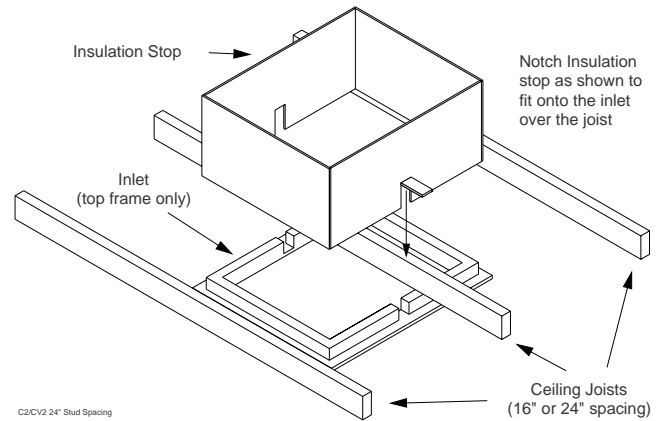

Figure 1 Installing the insulation stop across a joist.
6. The C2 and CV2 models can be "cross mounted" on ceilings with 24" or 16" joist spacing without cutting the stud. Refer to Figure 1 and the section below it for instructions.
† **Note:** The C2 and CV2 inlets may be "cross mounted" between studs (see Figure 1). The installation stop must be notched as shown and installed from the attic